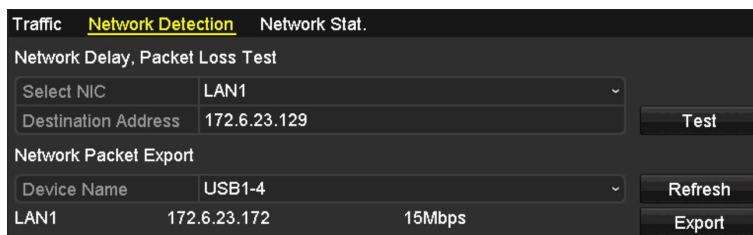

Figure 9-22 Export Network Packet
3. Select the backup device from the Device Name drop-down list, as shown in Figure 9-22.